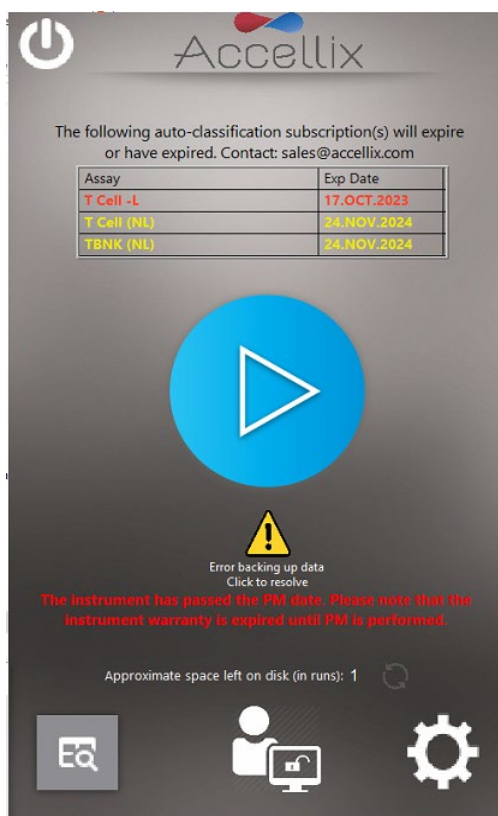

Figure 38: Start screen with login enabled, showing subscription status, recopy button and PM status
**Note:** If auto-classification subscriptions are enabled and an assay's subscription is due to expire within the next 6 weeks, the assay's name and expiration date will appear in **yellow** in a table above the blue Start button. If an assay's subscription has already expired, the assay name and expiration will appear in **red** (see Figure 38).